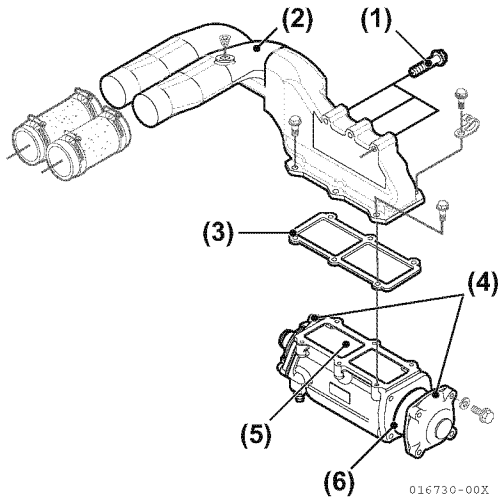

Figure 7-21
1. Loosen bolts (**Figure 7-21, (1)**) and remove intercooler from cooling freshwater cooler. See *Remove the intercooler (only for 4JH4-HTE) (Figure 5-21): on page 5-28.*
2. Remove air duct assembly (**Figure 7-21, (2)**) and gasket (**Figure 7-21, (3)**).
3. Remove water box A and B (**Figure 7-21, (4)**).
4. Disassemble, inspect and clean intercooler assembly (**Figure 7-21, (5)**) and change as necessary. **NOTICE: NEVER use caustic soda to clean the components. Use paraffin-based engine detergent to clean the cooler element. Thoroughly flush and rinse all components.**
6. **NOTICE: Always install new O-rings.** Install new O-rings (**Figure 7-21, (6)**) on water boxes.